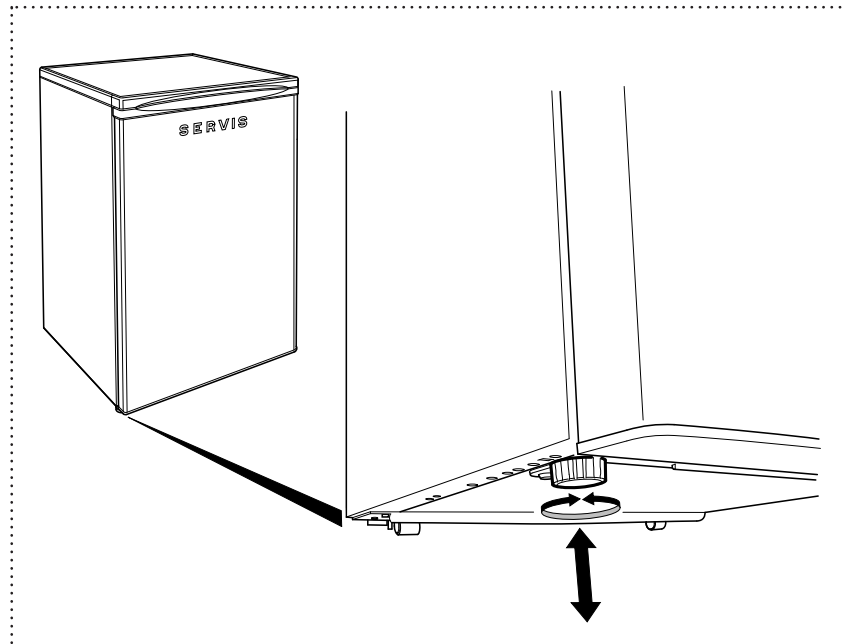

Figure 4
- 1 To increase the height of the Fridge, turn the feet clockwise (Figure 4).
- 2 To decrease the height of the Fridge, turn the feet anti-clockwise (Figure 4).